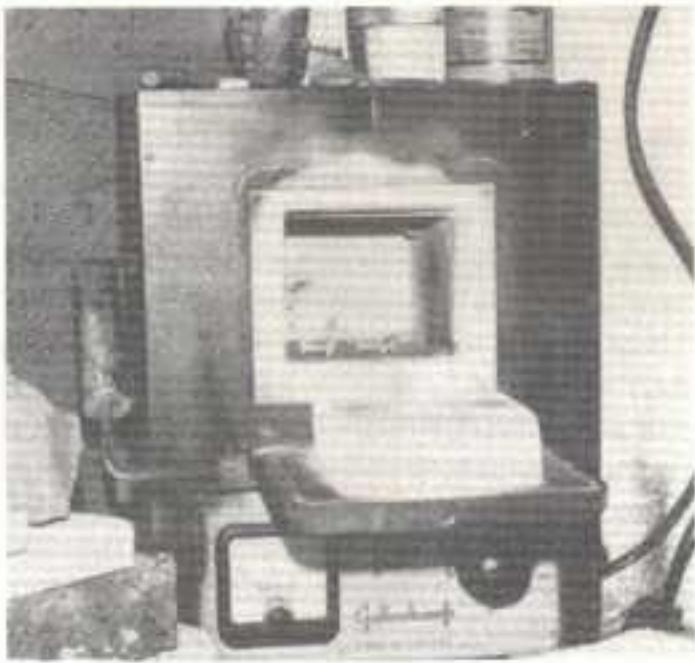

**Fig. 31** A very simple gas-fired tube furnace.
**Tube Furnace** Most of my own work is done either in an old electric muffle or a salt bath, but I do make frequent use of a rigged up gas-fired tube furnace, shown in Fig. 31. The tube itself is a piece of 1½ inch exhaust pipe, relic of the days when I used "proper" (ie. "vintage") motorcars, about 6 inches long. The tube is supported in 1 inch thick Folsain bricks with a hole cut using the ordinary tank hole cutter. One of the cores from the drilling is used to plug the back and as it has a hole from the pilot drill this enables me to set a home-made thermocouple inside if need be. The other core is used as a "front door". I give more details of the construction on page 90, but it IS very useful for those odd jobs which crop up which are neither large enough to warrant firing up the muffle, nor trivial enough to trust to direct heating.